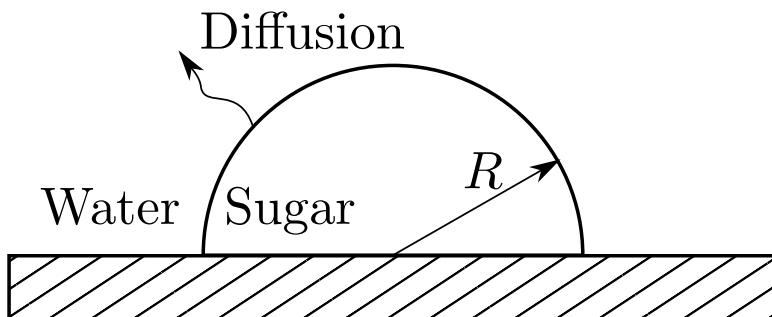

Figure 25: The lump of dissolving sugar.
- b) A hemispherical lump of sugar, initially of radius $R = 0.005$ m, is dropped into a cup of tea, quickly coming to rest on the bottom of the cup as shown in Fig. 25. The sugar lump then slowly dissolves into the tea. The diffusion coefficient of sugar in tea is 4×10^{-10} m² s⁻¹. The saturation mole fraction of sugar in tea is 0.1 and the total molar density of the system is $c = 55 \times 10^3$ mol m⁻³.